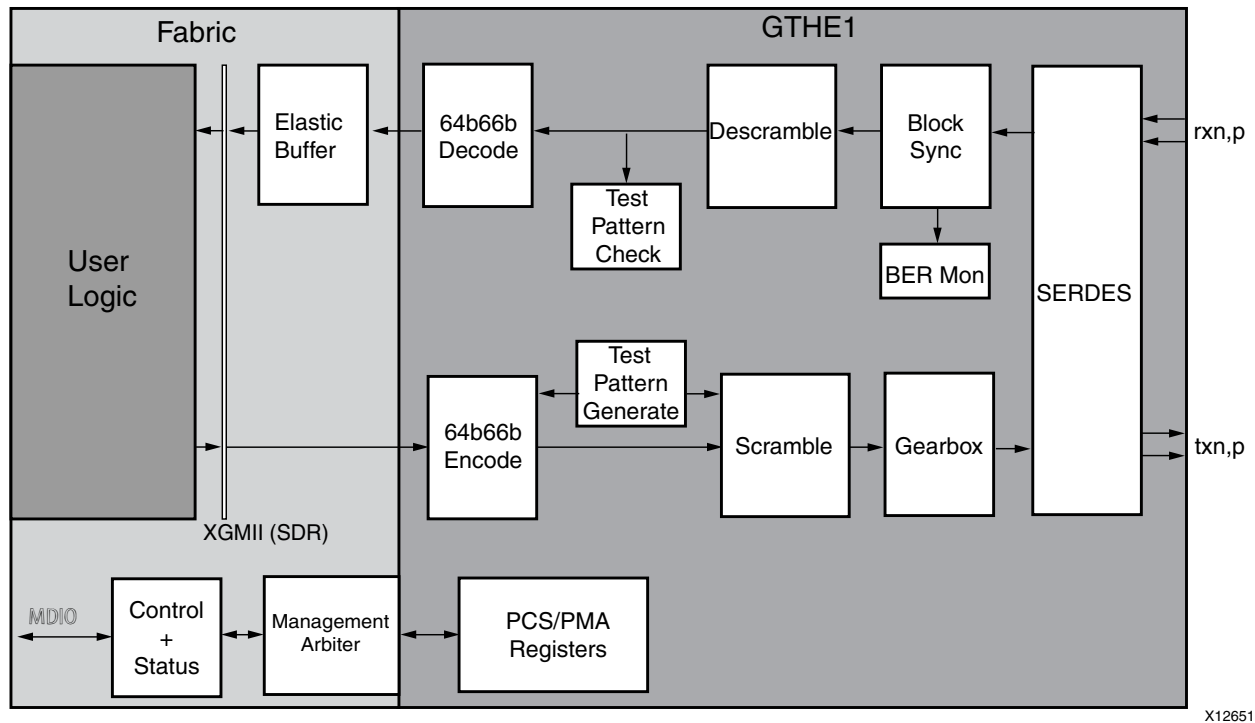

Figure 3-3: Virtex-6 Implementation of the 10-Gigabit Ethernet PCS/PMA (BASE-R) Core
- **PCS Block.** Provides encode/decode, scramble/descramble, block-lock, transmit and receive state machines, test-pattern blocks and BER monitor, in the same configuration as in Figure 3-3.
Figure 3-3 shows a block diagram of the implementation of the Virtex-6 FPGA 10GBASE-R core. The major functional blocks of the core include the following: